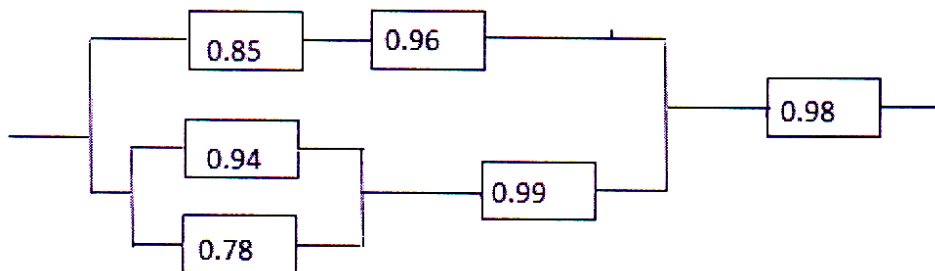

fig.2
- Q4) a) Find the reliability of the following structure shown in fig.2. [8]